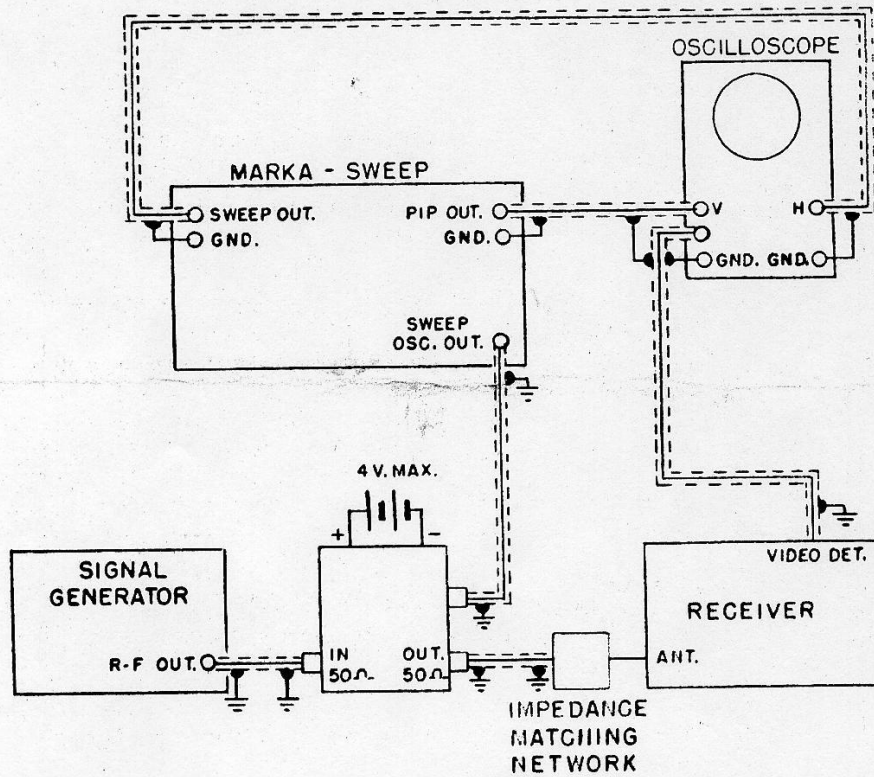

FIGURE 11 OVERALL BANDPASS RESPONSE SETUP
- A. Use Test equipment set up as shown in Figure 11.